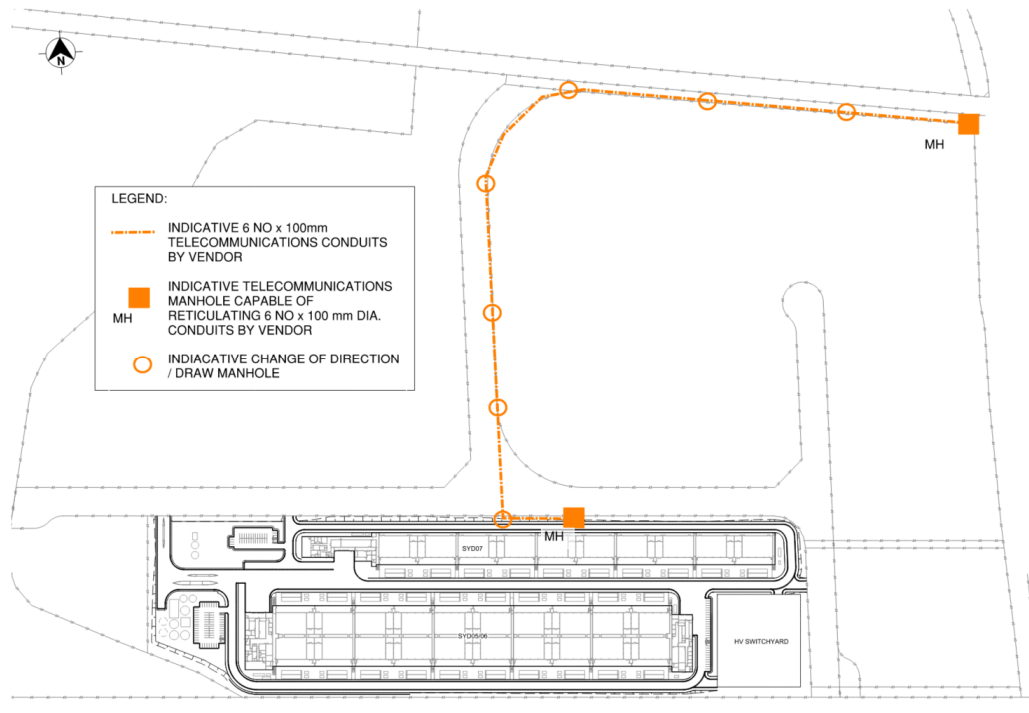

Figure 6 Estate Telecommunications Plan
The SSD-9522 works have allowed for six (6) 100mm telecommunication conduits to connect the estate to the wider telecommunications network at the Mamre Road and Bakers Lane intersection. Manholes will be spaced 180m apart along the conduit alignment. The estate has provided a connection point via a manhole at the northern boundary of the proposed site that is capable of reticulating six (6) 100mm conduits (refer to Figure 6). This location is as per current discussions with the proponent and may be subject to change during later design stages to suit the final design.